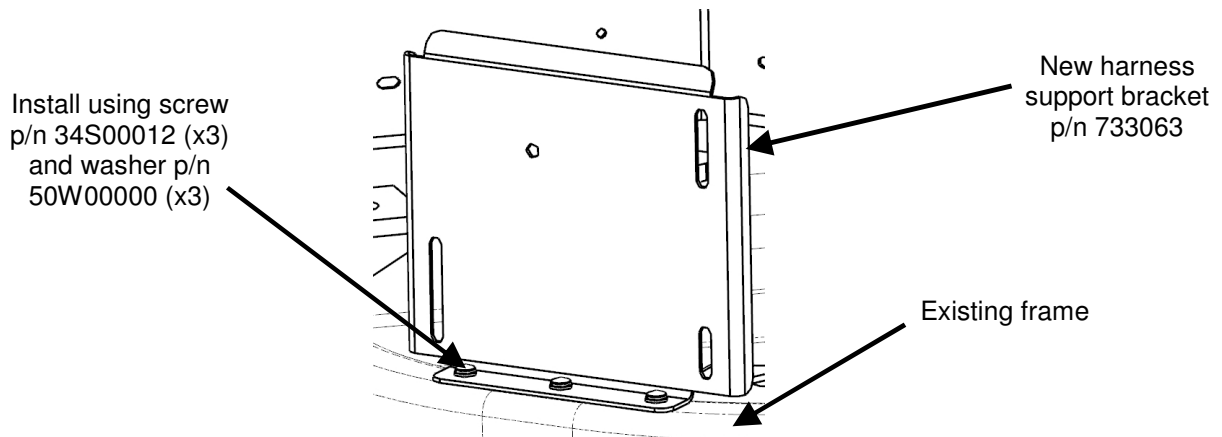

Figure 3: Harness Support Bracket Installation
6. Install the new harness support bracket to the existing frame as shown in Figure 3 using screw p/n 34S00012 (x3) and washer p/n 50W00000 (x3).